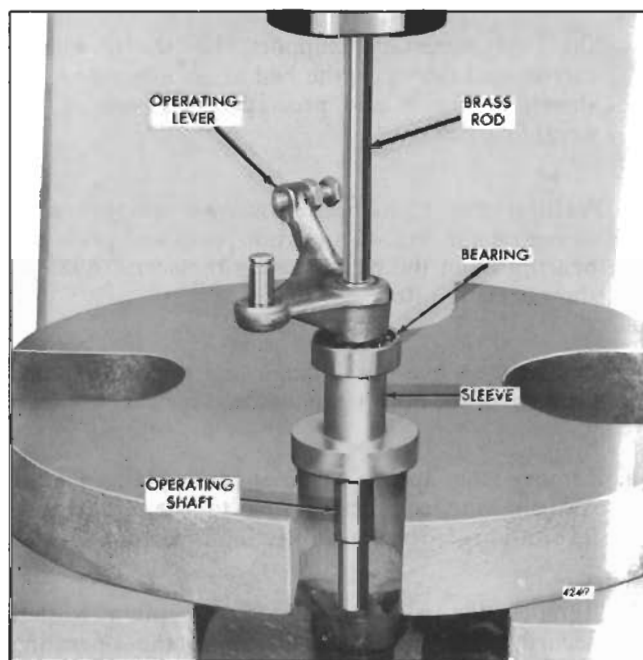

Fig. 13 - Removing Operating Lever and Upper Bearing from Operating Shaft
- k. Support the operating shaft, lever, bearing and sleeve on a large washer or plate, with a 5/8" hole, on the bed of an arbor press as shown in Fig. 13. Place a small brass rod on the end of the shaft and press the operating shaft out of the operating lever and bearing. Catch the shaft by hand when pressed from the lever and bearing to prevent it from falling and being damaged.